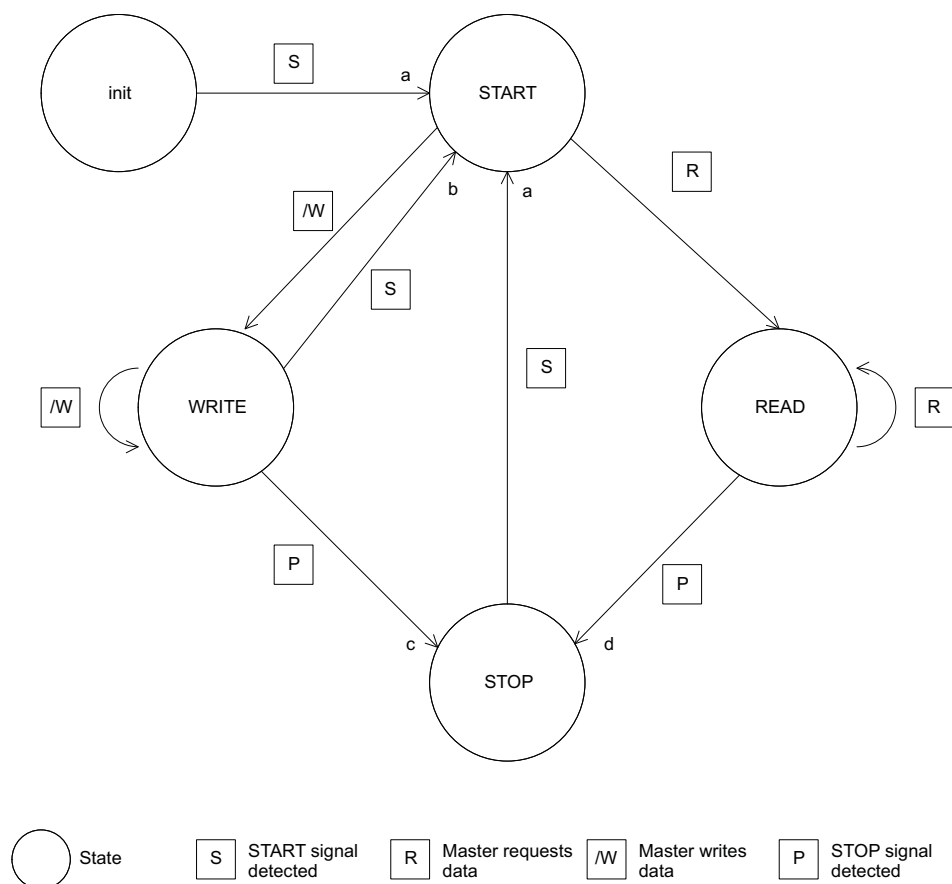

Figure 17. I²C State Machine
The I²C state machine is shown in Figure 17.
- When the previous state is init or stop, as shown branch *a* in Figure 17, it indicates a new start-of-packet.
- When the previous state is write, as shown branch *b* in Figure 17, it means that a PMBus-read command code was just issued. The master (host), expects data shifting out of the slave, i.e., MSP430F155, with the next clock pulses. In this state, the firmware calculates the PEC combined with the slave address and the write bit (1) in advance, then calls the PMBus parser to process the received read-command code.
- Write state (branch *c* in Figure 17): The master finishes sending its write command, then calls PMBus parser to process the received write-command code.
- Read state (branch *d* in Figure 17): The master stops requesting data, no action need to be taken.